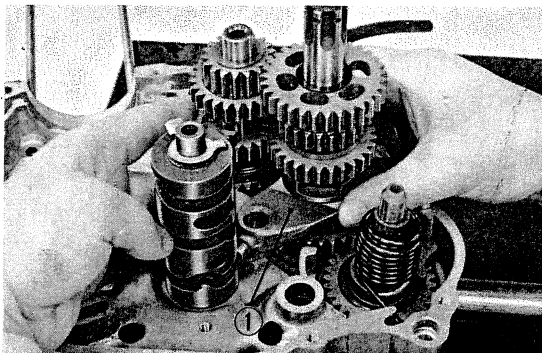

Fig. 94 ① R. shift fork
5) Assemble the right shift fork into the counter shaft top gear, raise the gear and then assemble guide pin into guide groove on the drum. (Fig. 94)